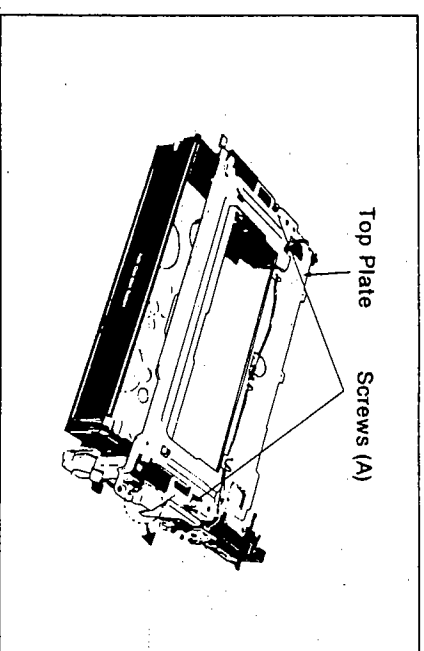

Figure M55
2. Remove the 2 screws (A) as shown in Figure M55.
wn in Figure M55.
9. Install the top plate on the Cassette Compartment Base and tighten the 2 screws (A) as shown in Figure M55.